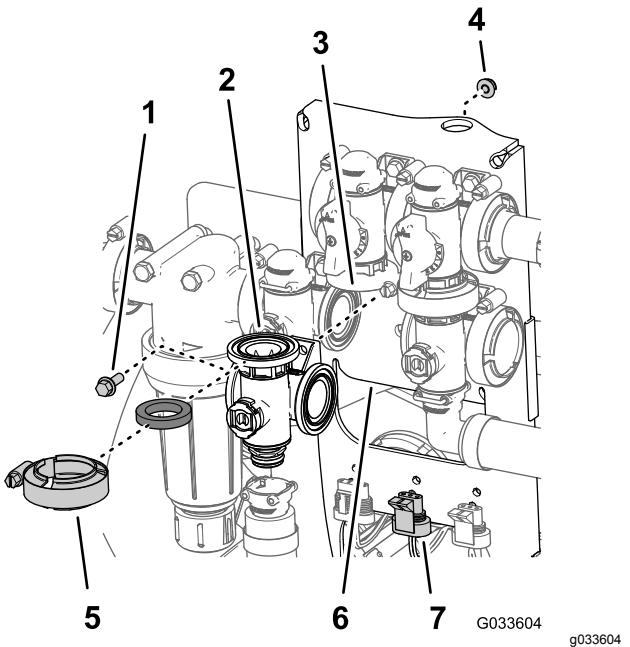

Figure 127
1. Align the flange of the agitation-valve manifold, a gasket, and the flange of the agitation bypass valve (Figure 127).
- Assemble the agitation valve to the valve mount with the flanged-head bolt and flanged locknut (Figure 127) that you removed in step 3 of Removing the Agitation Manifold Valve \(page 80\) and torque the nut and bolt to 10 to 12 N·m (90 to 110 in-lb).